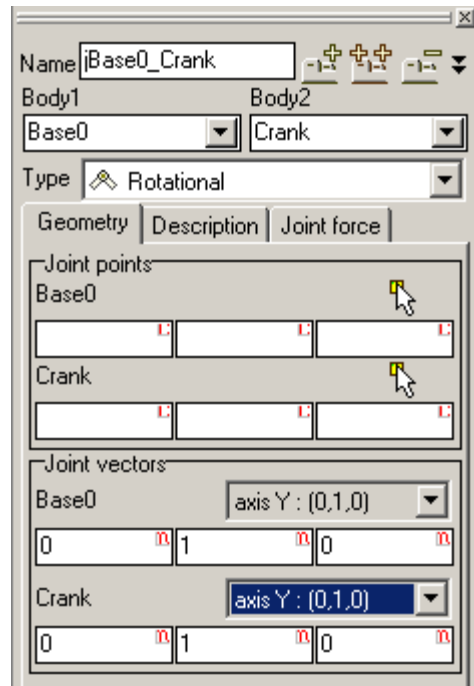

Figure 1.19.
2. Rename the joint to **jBase0\_Crank**. Select **Rotational** type for the joint and set Y axis as **Joint vectors**, see Figure 1.19.